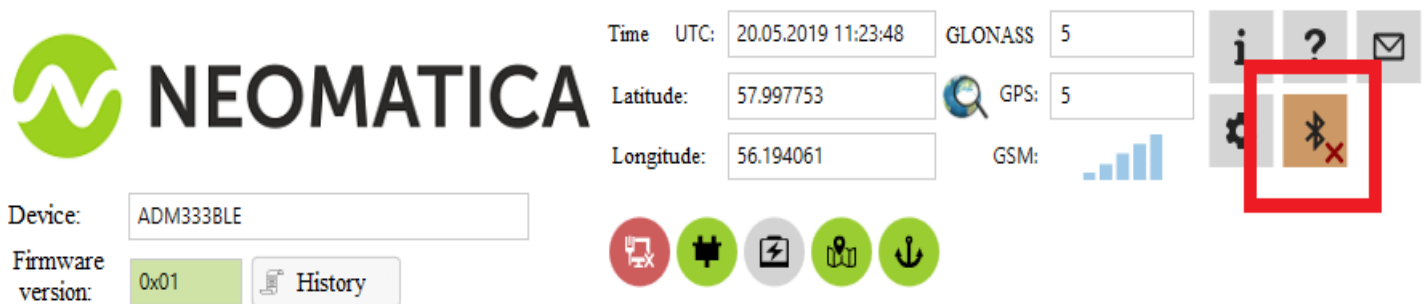

Figure 6 – ADM Configurator: “disable device button”
- 7) After the device is set or, if connection of another tracker is required, click "disable device" in the upper right corner of the ADM Configurator. The ADM Configurator will go into a standby mode as shown in the Figure 6.